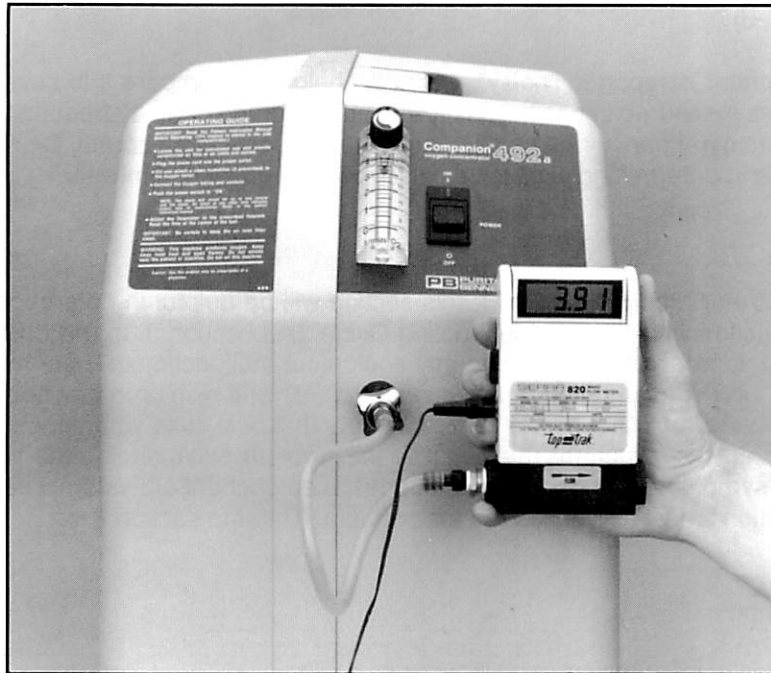

Figure 3-6: Flowmeter Testing
3. Connect the test flowmeter (Sierra Top-Trak model 820 mass flowmeter) to the concentrator as shown in Figure 3-6.